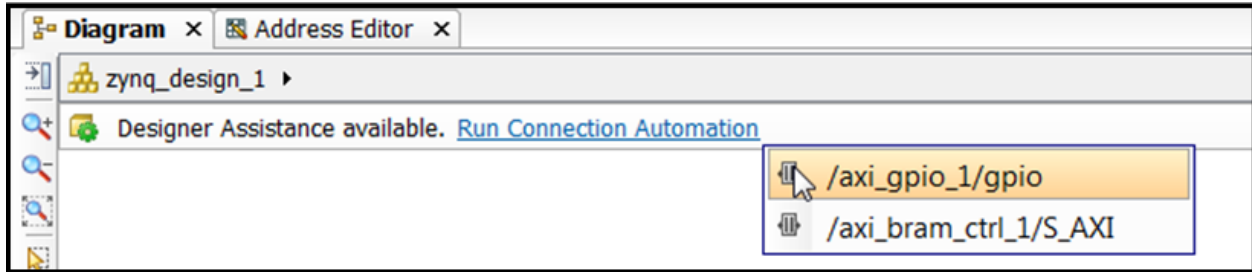

Figure 15: axi_gpio Selection
3. Select **Run Connection Automation** again, and select the /axi_gpio_1/gpio port as shown in Figure 15.